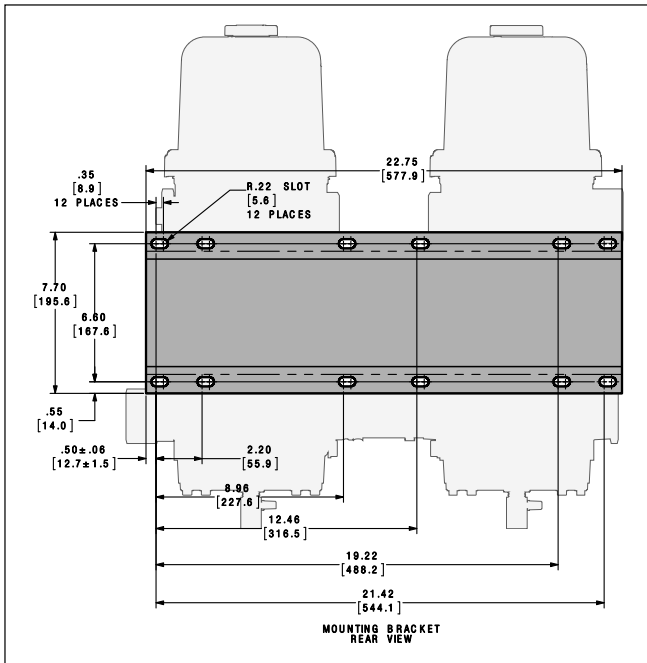

Figure 1 - Mounting Dimensions
- Securely mount the Industrial Pro using twelve bolts (3/8"-24UNF or M10). (See Figure 1)